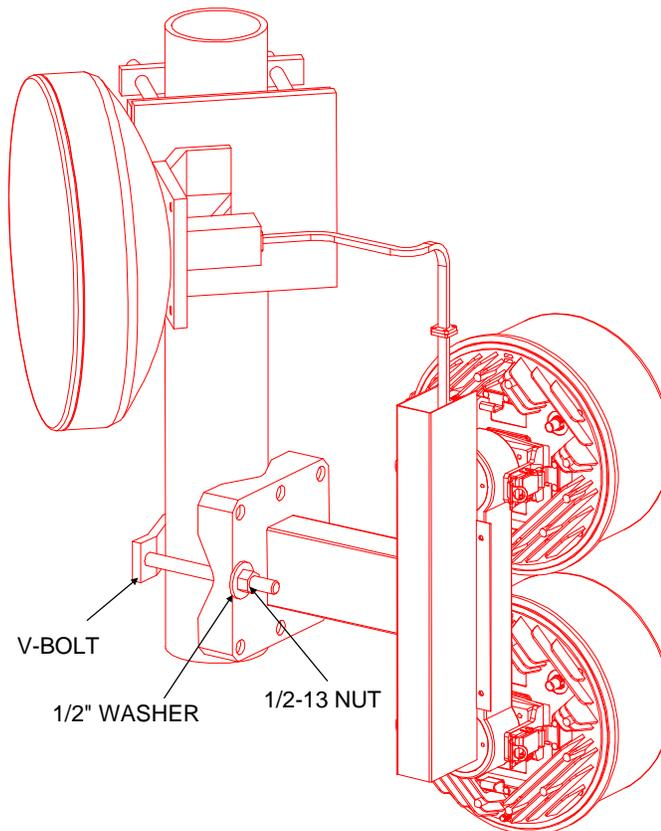

Figure 7-4. ODU Mounting Bracket Assembly
- Step 2. Loosely assemble the V-bolt to the dual ODU pole mount using 2-each of the ½-13 hex nuts and ½" flat washers supplied in the installation kit (items 3 and 4). See Figure 7-4 for reference.
- Step 6. Attach assembly to pole using the V-bolt. See Figure 7-4 for reference.